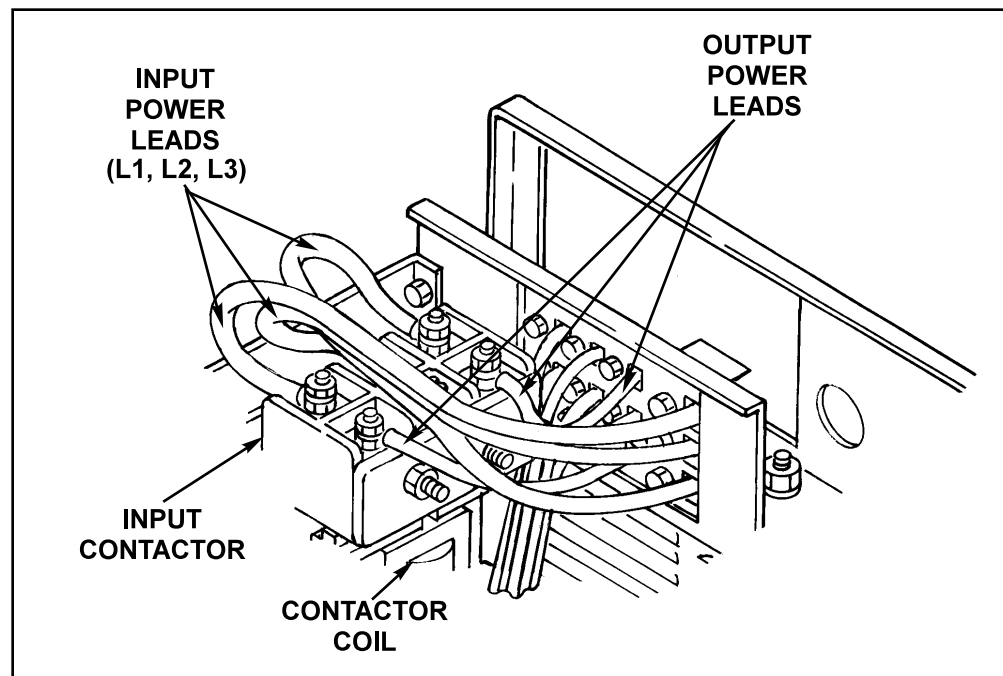

FIGURE F.19 - Input Contactor Removal
1. Using a 11/16" wrench, remove leads L1, L2, L3 and output power leads from 1CR contactor. Mark and label all leads for proper reconnection. See Figure F.19.
4. Using a 11/16" wrench, attach leads L1, L2, L3 and output power leads to 1CR contactor. See Figure F.19.